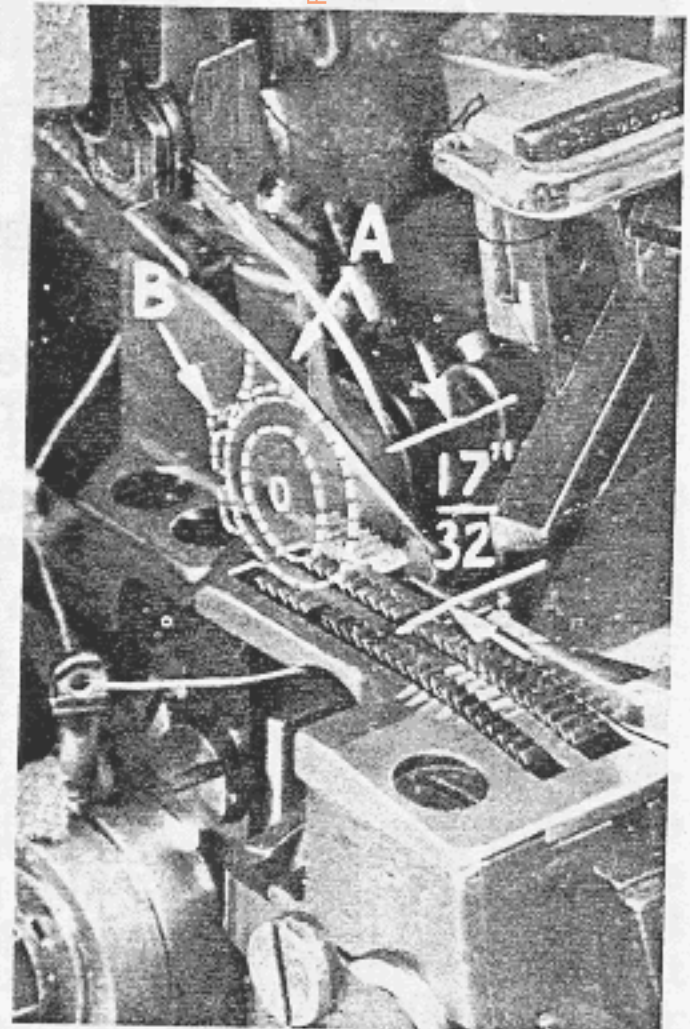

Fig. 3
With throat plate assembled in position, needle should center in the front end of needle slot. When needle is at high position, needle point should be set $17/32$ inch above throat plate (Fig. 3). To align needle or set the height above throat plate, move needle driving arm (A, Fig. 3) by loosening clamp screw (B). Remove throat plate after making first adjustment.